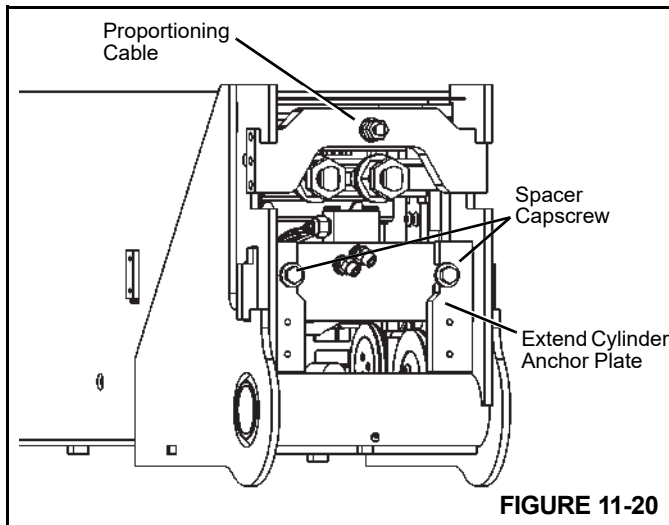

FIGURE 11-20
7. Install the spacers and capscrews through the telescope cylinder anchor plates.(Figure 11-20)